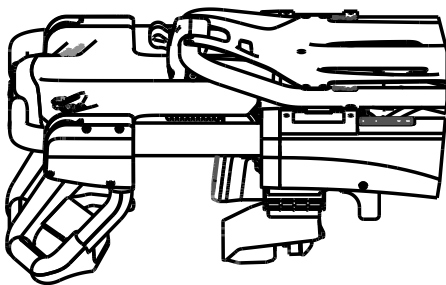
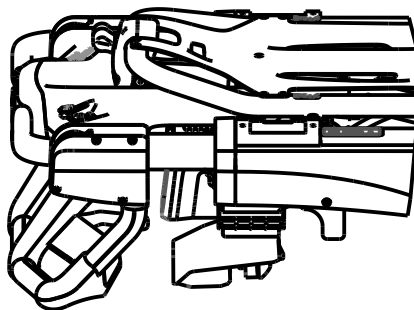
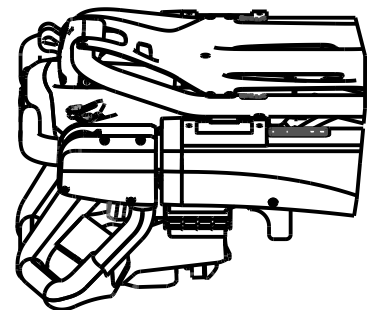

Figure 20 – Extended
Figure 21 – Mid
Figure 22 – Retracted
3. Release the foot section release lever to lock the foot section in either the extended (Figure 20), mid (Figure 21), or retracted position (Figure 22).